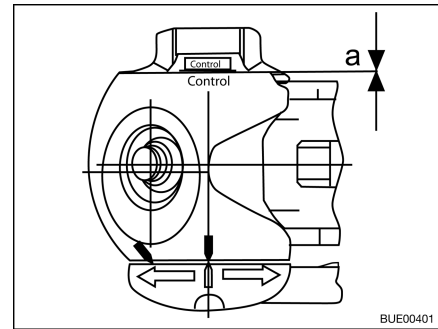

Fig. 98 Friction control
- Distance a = 0 (Fig. 98): Check and, if necessary, replace the friction pads.